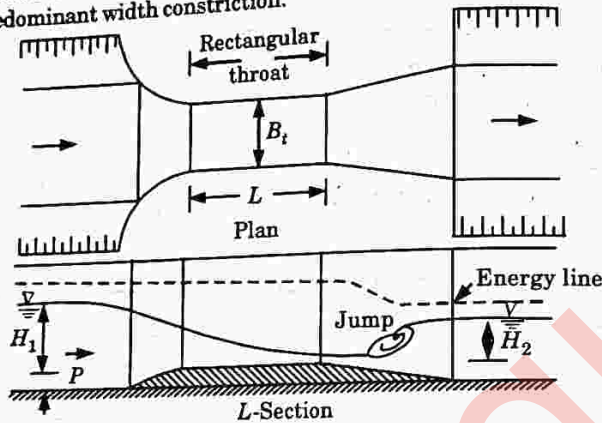

Fig. 2.32.1. Standing-wave flume
3. The critical-depth flume shown in Fig. 2.32.1 is known as a standing-wave flume or throated flume. This flume can be fitted into any shape of the parent channel. The throat is prismatic and can be of any convenient shape.